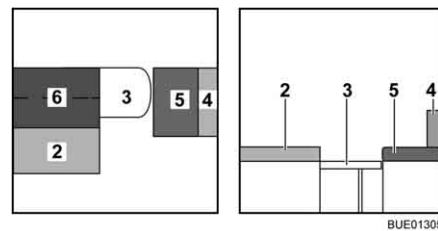

Fig. 133 During conversion
- Unfold the additional cushion (Fig. 133,6) and lay it on the table.